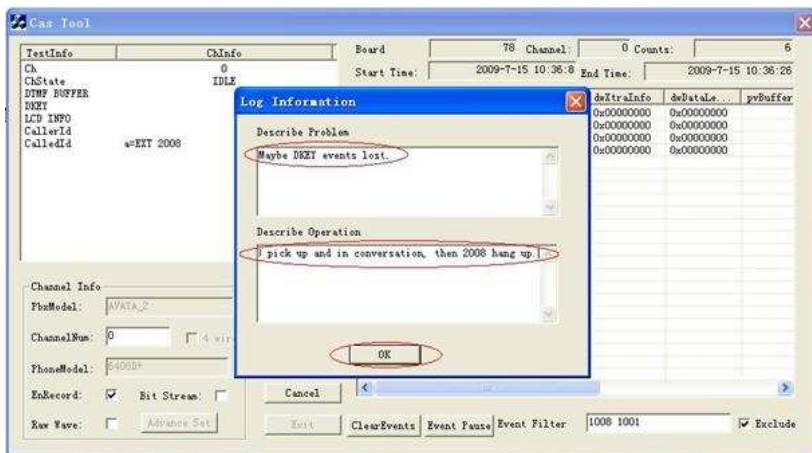

Figure 2-15
Step 11: When you click the button 'End', the dialog box of 'Log Information' pops up as shown in Figure 2-15.